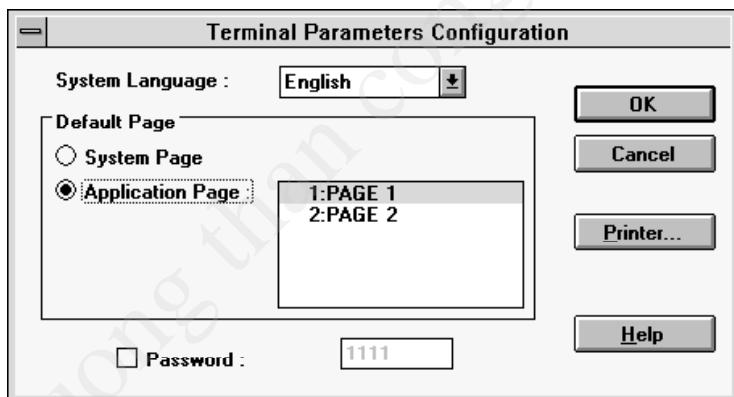

Figure 20: Configuring Terminal Parameters
a. To have an application page displayed by default, select the **Configuration** menu header, then select the **Terminal Parameters** option. The *Terminal Parameters Configuration* window appears (see Figure 20):